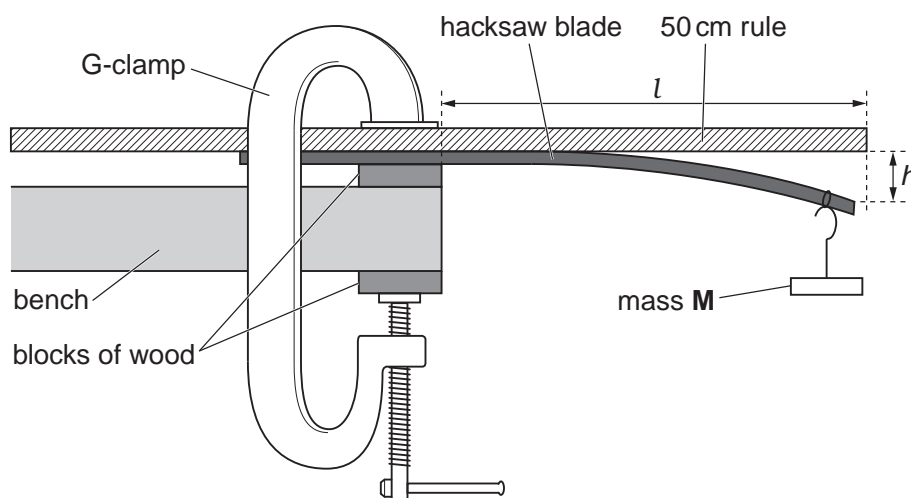

Fig. 1.1
- 1 × G-clamp as shown in Fig. 1.1, 10 cm size may be suitable
- 1 The apparatus should be set up for the candidates, as shown in Fig. 1.1, with the length l at approximately 25 cm.
- 6 The first 50 cm rule is to be used as indicated in Fig. 1.1. The second 50 cm rule should be placed at the side of the apparatus for the candidate to use to measure h . A metre rule may be substituted provided the bench top is more than 1 m above the floor.